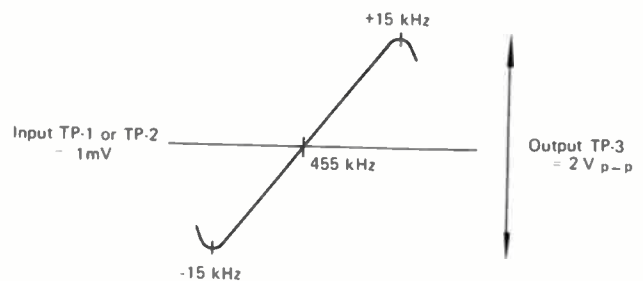

FIGURE 7
Step 2: Adjust T1 and T2 of IF amplifier so that 455 kHz marker is in the center of the discriminator curve as shown in Fig. 7.